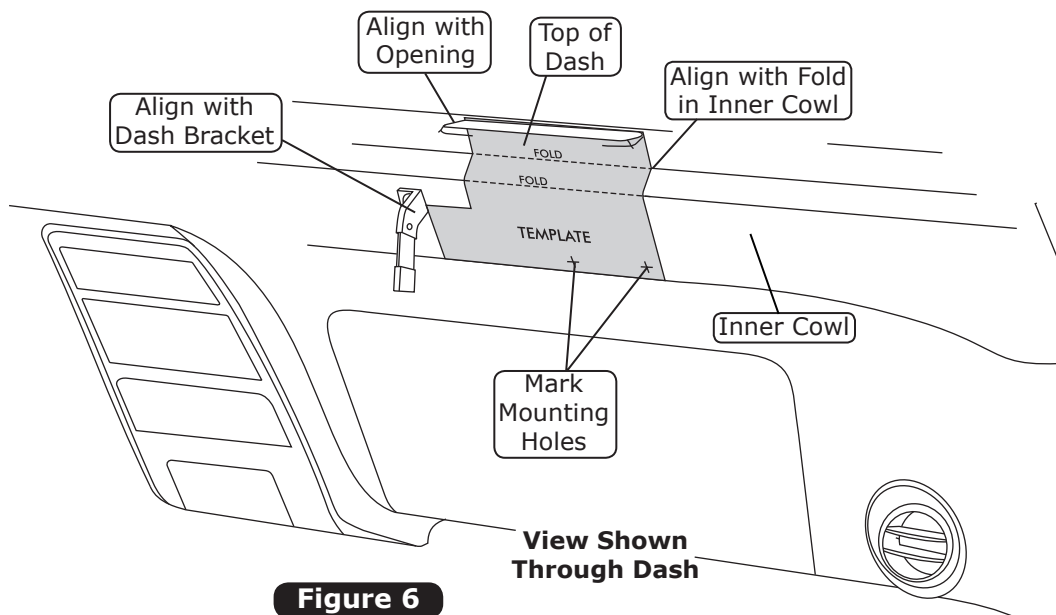

Figure 6
1. Cut out the evaporator bracket template on Page 25. Place the template onto the inner cowl under the dash by aligning the left side of the template against the dash bracket as shown in Figure 6, below. Fold the template to follow the contour of the inner cowl. Make sure the upper left hand corner of the template aligns with the left side of the defrost opening in the dash as shown in Figure 6, below.
2. Once the template is aligned correctly, mark the mounting holes on the inner cowl. After marking the holes, drill (2) 3/16" holes in the inner cowl for the evaporator front mounting bracket (See Figure 6, below).